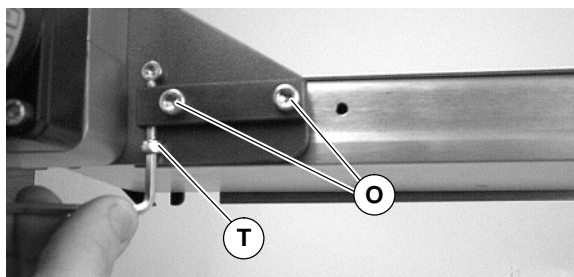

Figure 9
11. Tighten timing belt tensioner screw (T of Figure 9) to 15 in-lb (1.7 Nm).